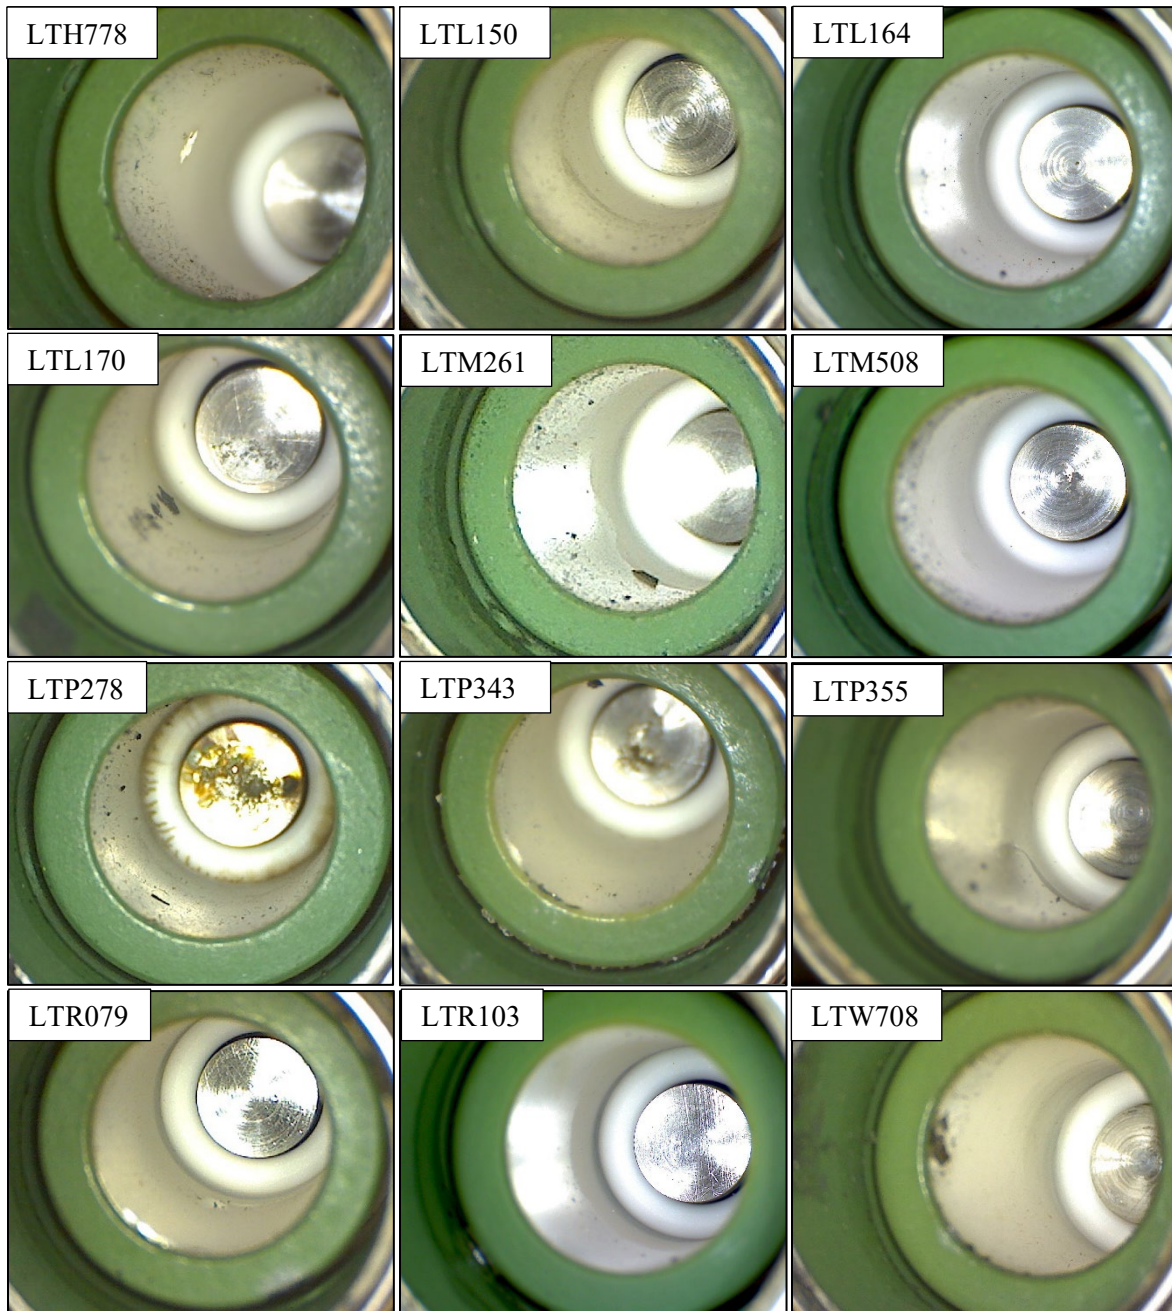

Figure 4: Competitor Long Life Igniter Terminal Well Contamination
Roughly 55% of the terminal wells inspected were clean, with the rest exhibiting some level of contamination. This could possibly be from the anti-seize compound noted in the installation threads. The photos in **Figure 4** show the varying levels of contaminates in the igniters.
The photos in **Figure 4** below show the as received condition of all ninety-six (96) igniter terminal wells.